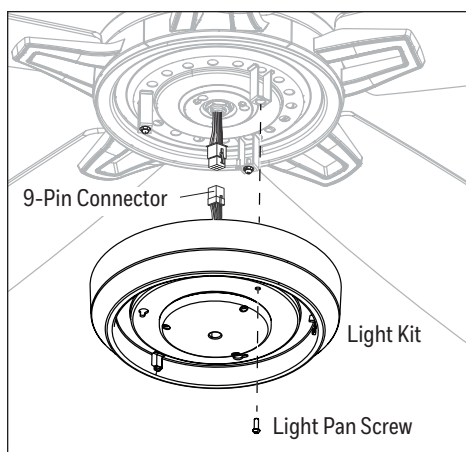

Figure 4.6
- Remove one of the three light pan screws from the light pan and loosen the other two but do not remove. Connect the 9-pin connector from the light pan to the 9-pin connector from the light kit. Lift the two keyhole slots in the light kit over the two loosened light pan screws and turn in a clockwise direction. Then, use the previously removed light pan screw to secure the light kit to the light pan. Tighten all screws (Figure 4.6).